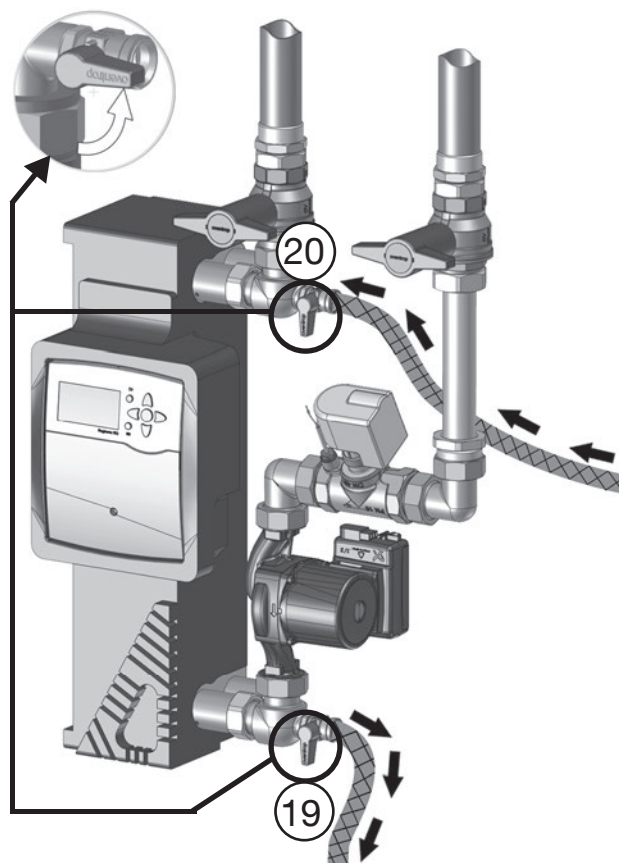

Fig. 5.14: Start the flushing process for cleaning the storage cylinder circuit
5. Open both ball valves slowly to start the flushing process (Fig. 5.14) which should last at least **five minutes**.